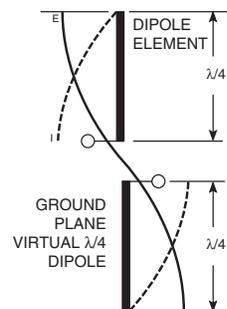

Figure 42: Dipole Antenna
4. In many antenna designs, particularly $\frac{1}{4}$ -wave whips, the ground plane acts as a counterpoise, forming, in essence, a $\frac{1}{2}$ -wave dipole (Figure 42). For this reason, adequate ground plane area is essential. The ground plane can be a metal case or ground-fill areas on a circuit board. Ideally, it should have a surface area less than or equal to the overall length of the $\frac{1}{4}$ -wave radiating element. This is often not practical due to size and configuration constraints. In these instances, a designer must make the best use of the area available to create as much ground